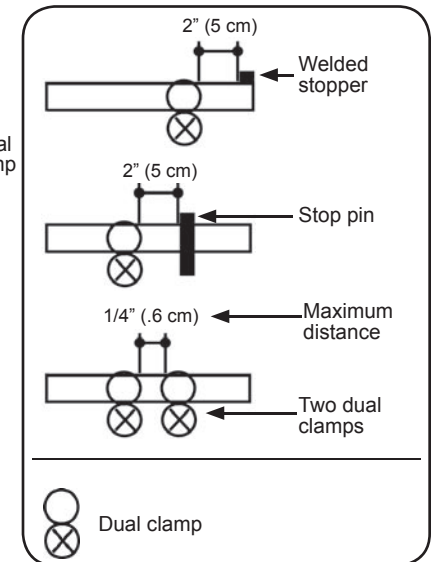

Fig. 6.16
- 1- Install the first dual clamp on the vertical tube of the wall tie frame below the top bar and above the bottom bar (fig. 6.14). Attach the wallmount to the dual clamp. Make sure that the distance between the welded stopper (or stop pin) and the dual clamp does not exceed 2" (5 cm) (fig. 6.16). Tighten the bolt.